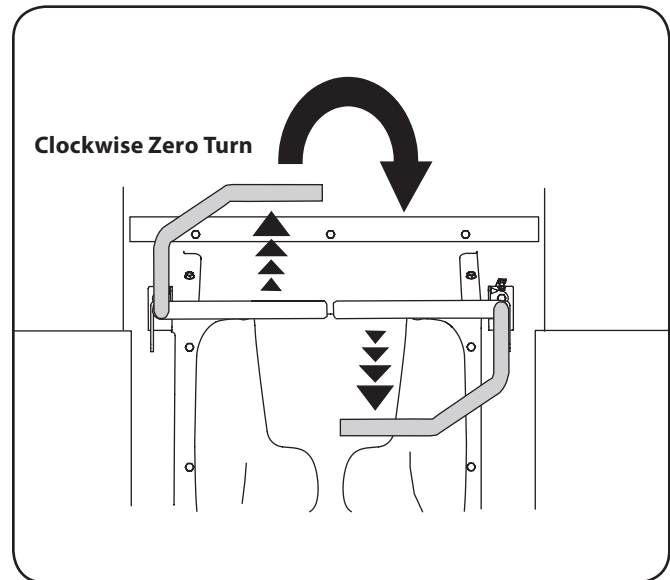

Figure 5-9
2. To turn clockwise, move the left control lever forward while simultaneously moving the right control lever rearward. See Figure 5-9.